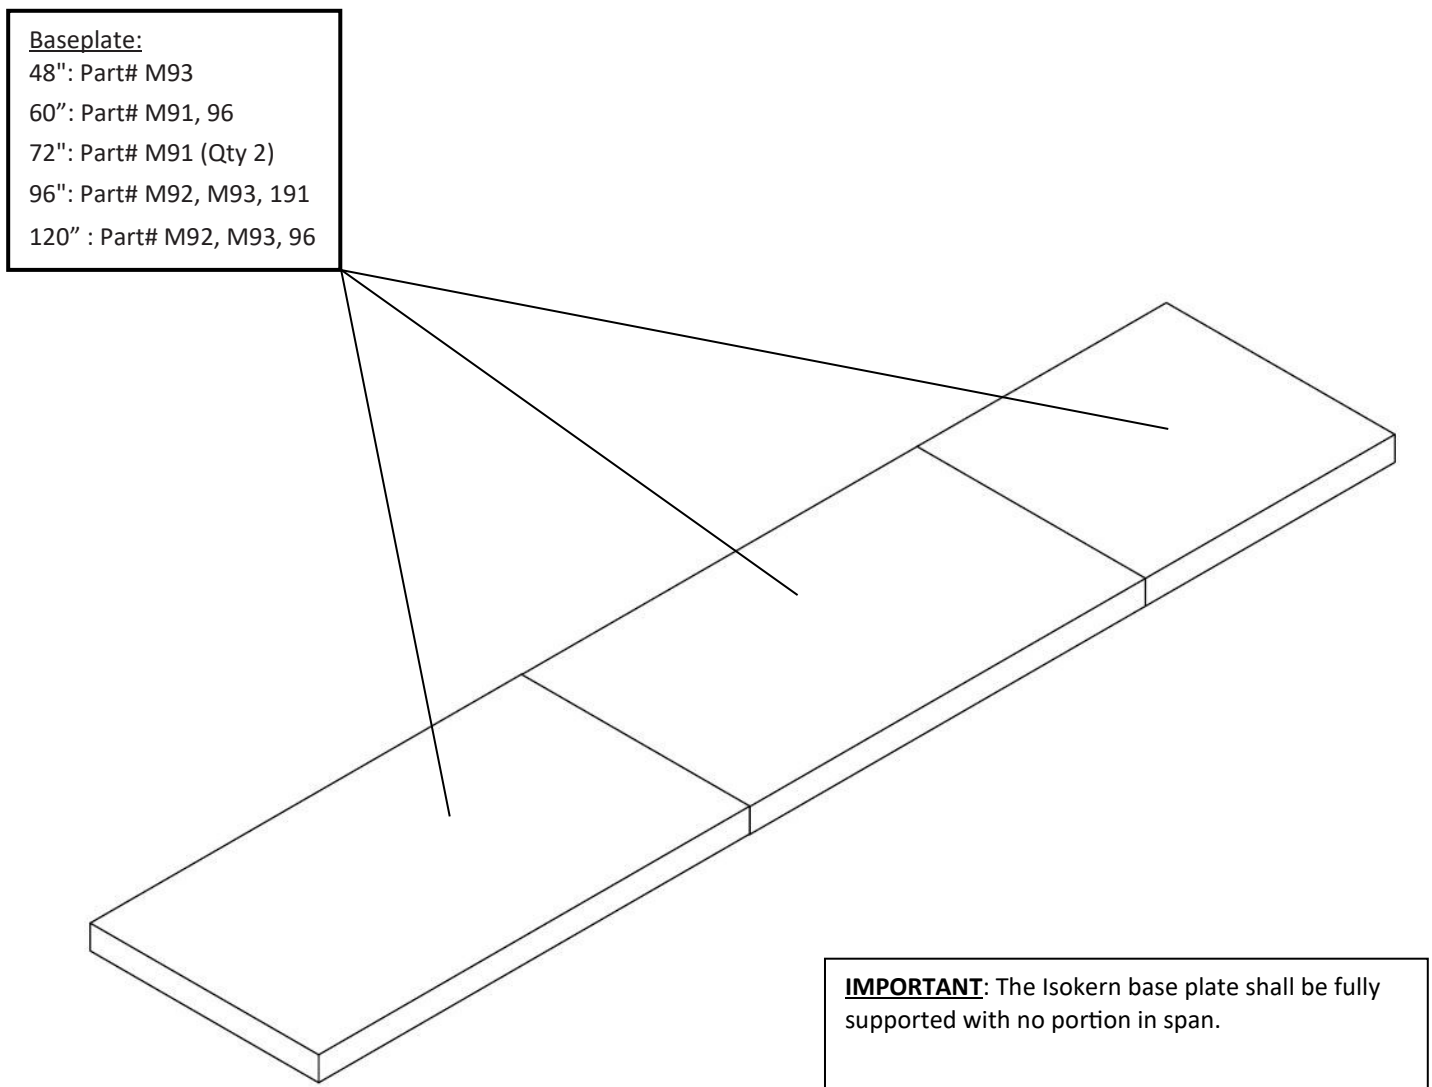

FIGURE 8
- 1) Apply Earthcore Adhesive to the joints between each baseplate part and ensure to set each base plate in a full bed of Earthcore Adhesive on a level support surface (**Figure 8**). See page 17 for information regarding the supporting floor system. Do not set the base plate so that it is in span. Refer to pages 6-15 for part and assembled firebox dimensions.